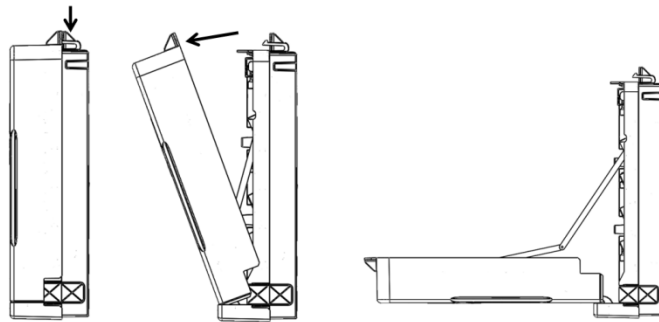

Figure 3 – Method to Open Cover
- 3.1.2. Depress plastic latch to open the enclosure (Fig. 3)